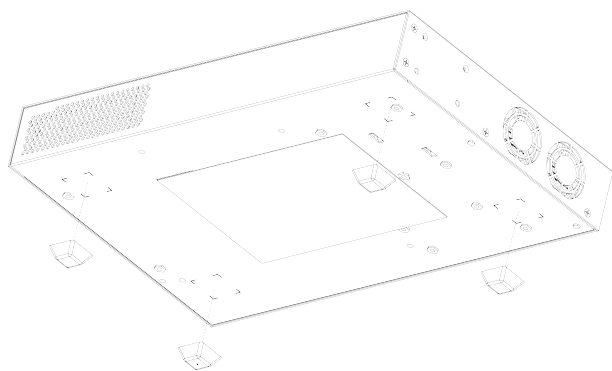

Figure 45: Table Mount: Attaching Rubber Feet
2. Apply the pads to the underside of the RPS by placing a pad at each corner, ensuring that all corners are aligned. Figure 45 shows the locations for attaching the rubber mounting feet on the switch.